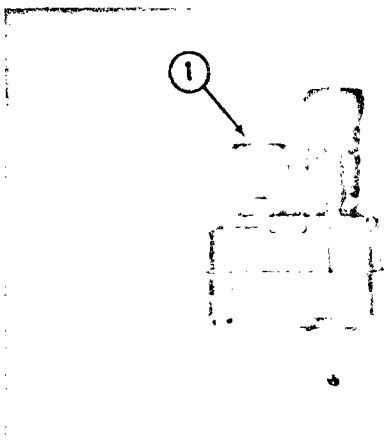

Fig. 1-21, (ST-1224). ST-1224 adapter
An adapter, ST-1224 with 2:1 ratio, in speed switch drive only, (1, Fig. 1-21) is available to drive the speed switch at twice the engine speed. This tool when
**Note:** The overspeed stop switch cable must be connected to the short adapter connection. (1, Fig. 1-21).